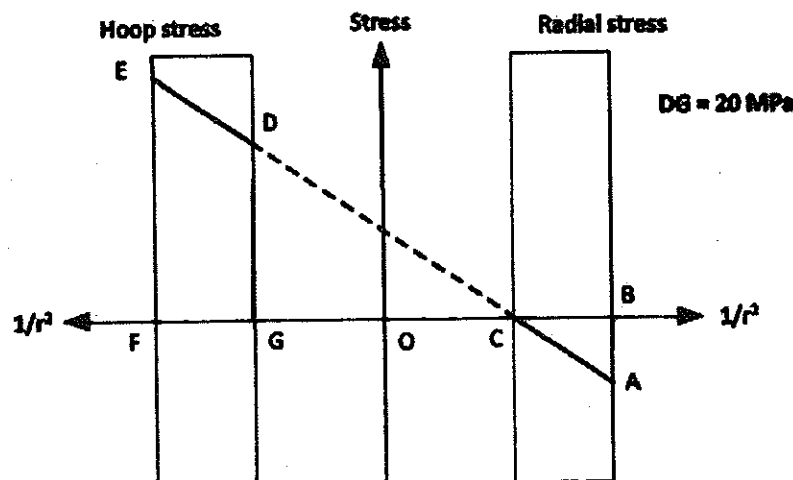

Figure Q1
2. This question paper consists of **six (6)** questions.
3. Answer any **Five (5)** questions only. All questions carry equal marks.
- (b) Figure Q1 below shows variation of radial and hoop stresses of a thick cylinder as a function of  $1/r^2$  ( $r$  is the radius at the stress point) when the cylinder is subjected to an internal pressure,  $P_i$ .